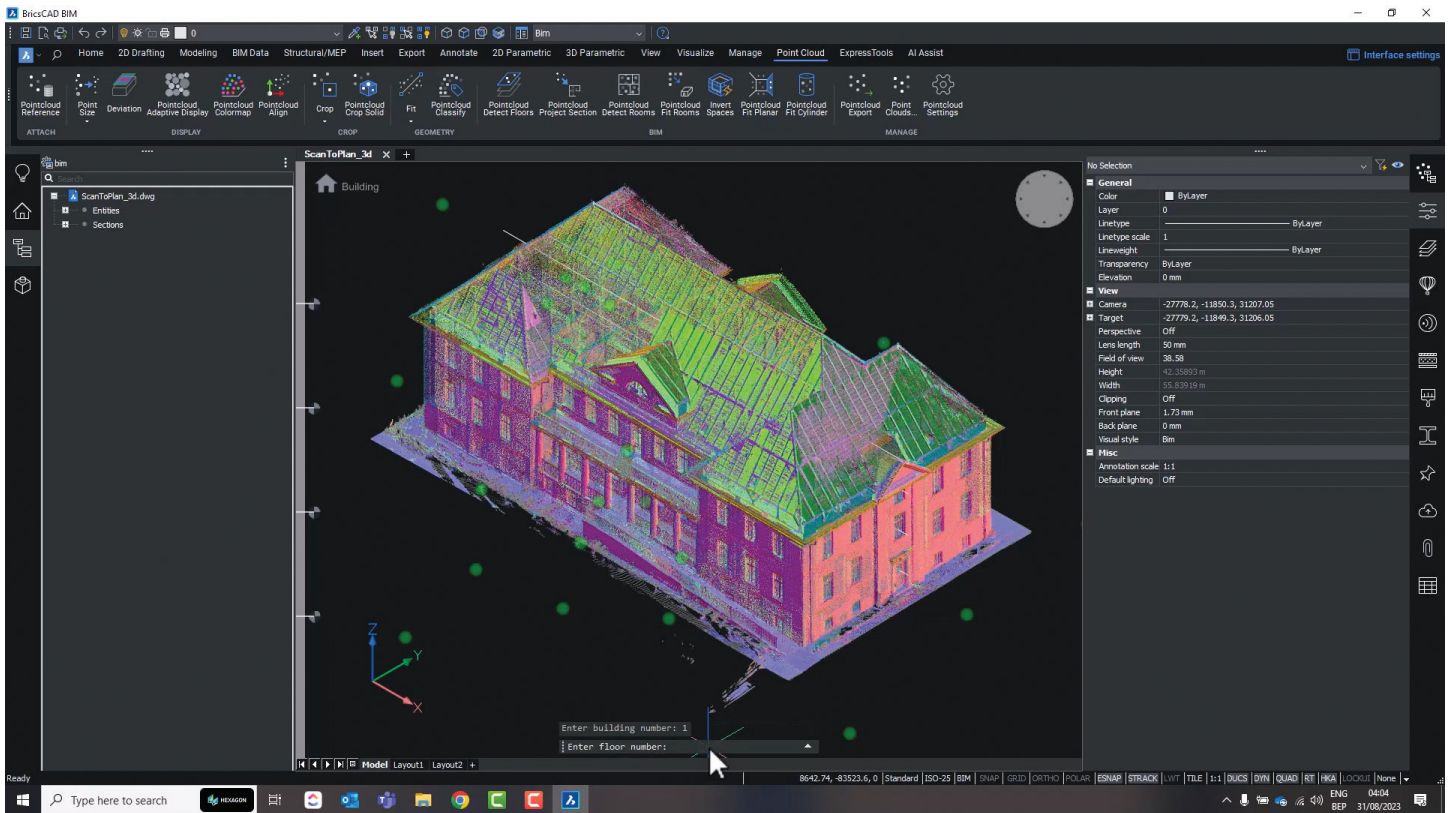

Figure 3
- Using automatic room detection and room fitting, the user will be able to increase productivity by at least 3x when having to model a 3D building from a scan. (See Figure 3)